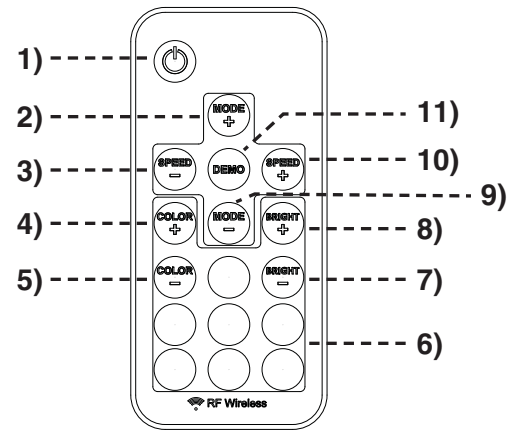
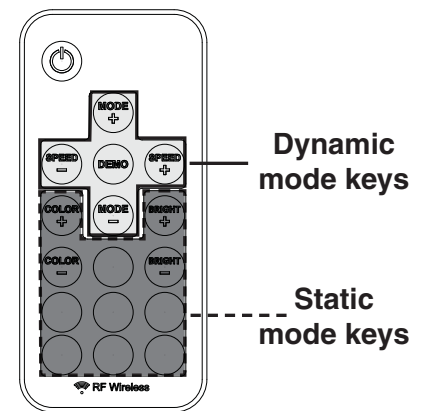

Fig. 35-1 Remote transmitter detail
Fig. 35-2 Remote transmitter modes detail
Prior to remote transmitter use, familiarize yourself with the transmitter keys as illustrated in Fig. 35-1 and Fig. 35-2.
2. Press the **POWER** key on the remote transmitter to turn the light on or off (see Fig. 35-1).
3. Use the remote as desired. Reference the above section and Fig. 35-1 and 35-2.